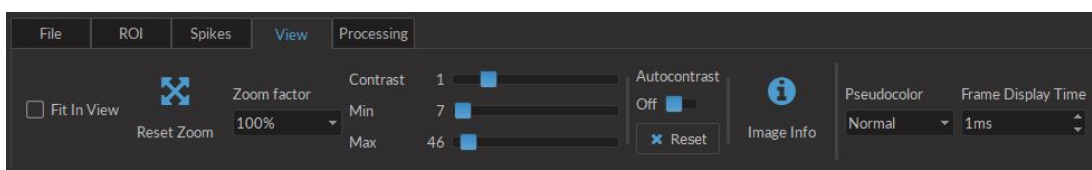

Figure 5.5: View Tab
4. The **View tab** (Fig. 5.5) is used to manipulate the appearance of an image without changing base data.